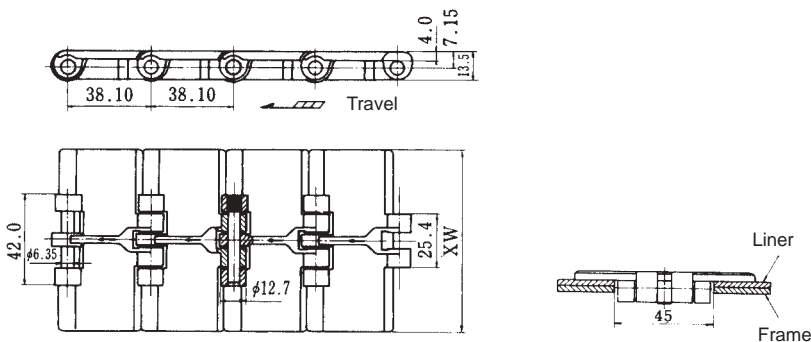

Figure 4.4 TTP Top Chain
- (1) In TTP Top Chain, individual top plates made of molded polyacetal are connected using 304 stainless steel pins (Figure 4.4). Due to its simple construction, the chain can be easily washed and cleaned. The basic information is shown in Table 4.2.
- (2) Table 4.3 shows the dimensions and function availability for selected TTP Top Chains. In addition to the ones shown in the table, TTP Top Chains are produced in the following widths: 63.5, 76.2, 101.6, 114.3, 127.0, 152.4, and 165.1 mm. Check with the manufacturer about the types of chains available.
- (3) Double-hinged TTP Top Chains have wider hinges than standard chains, and are available in Top widths of 190.5, 254, and 304.8 mm. Use 25-tooth sprockets (12.5 effective teeth) for these chains.